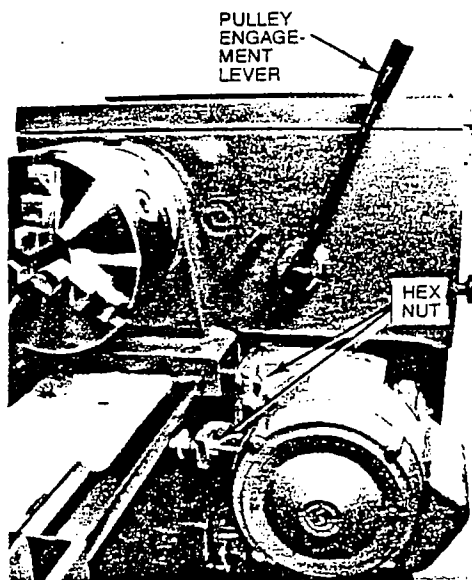

FIGURE 31
1. Adjust main spindle pulley by means of pulley engagement lever (Figure 31).